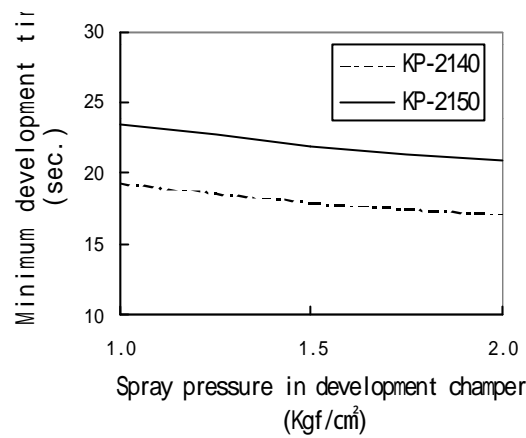

Figure 5. The change of the development time with spray pressure. Condition: Na2CO3, 1wt%, 30 , 1.5kgf/cm2
- affects the developing rate in Figure 5.